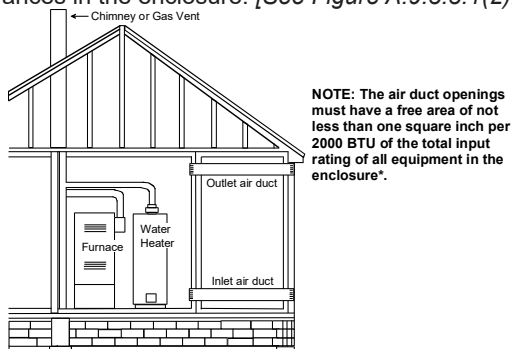

Figure A.9.3.3.1(2) All Combustion Air From Outdoors through Horizontal Ducts.
9.3.3.2* One Permanent Opening Method. One permanent openings, commencing within 12 in. (300 mm) of the top of the enclosure, shall be provided. The appliance shall have clearances of at least 1 in. (25 mm) from the sides and back and 6 in. (150 mm) from the front of the appliance. The opening shall directly communicate with the outdoors or shall communicate through a vertical or horizontal duct to the outdoors or spaces that freely communicate with the outdoors (see Figure A.9.3.3.2) and shall have a minimum free area of the following: